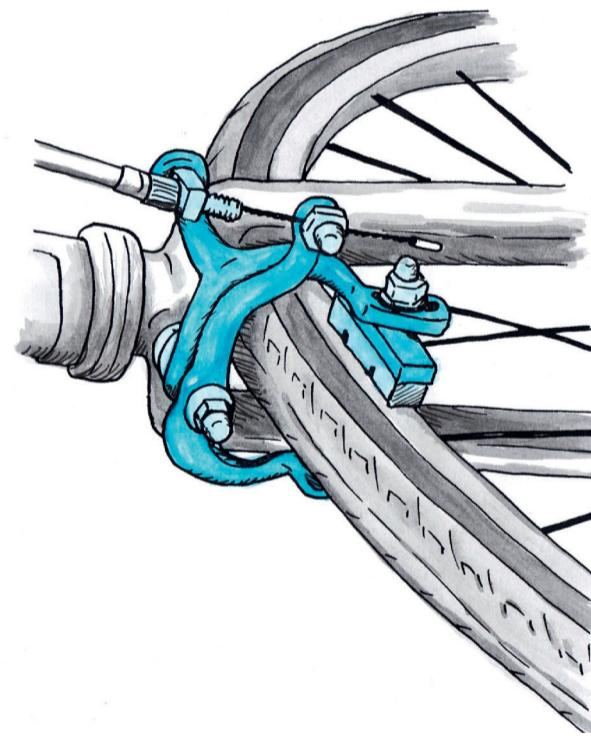
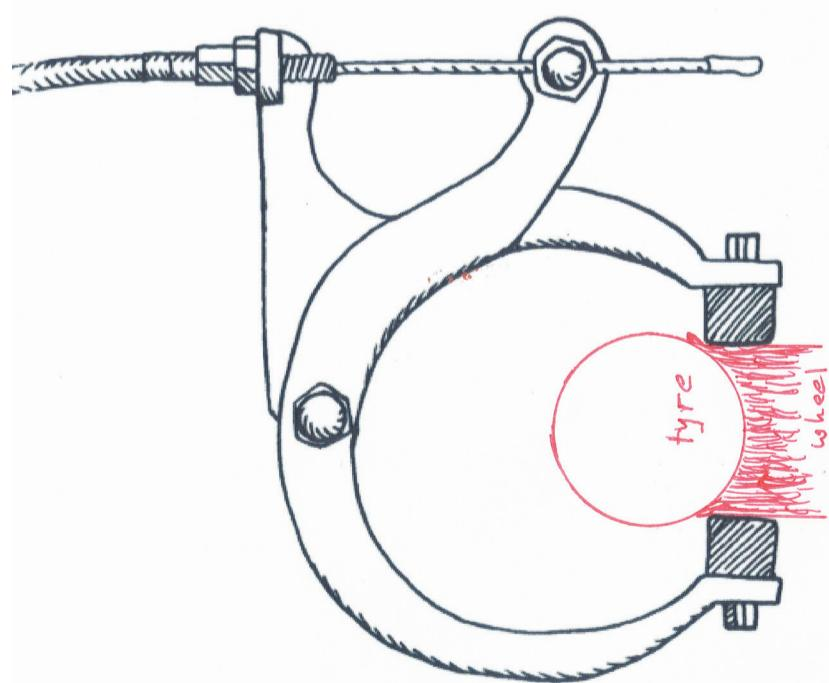

Figure 13
Figure 17: Calliper brake for a bicycle
The brake system in Figure 13 is actually a pair of callipers, as you can see from Figure 17 below.
- Copy the drawing of the calliper brake in Figure 17 above. On your drawing, draw the part of the bicycle wheel that fits between the brake blocks. This is the front view.
An example of a drawing is added in red to Figure 17 above.